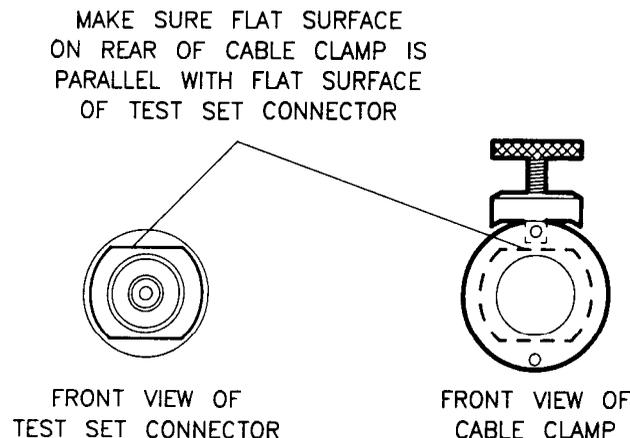

Figure 3-7. Visually Aligning Clamp and Nut Flats
3. See Figure 3-7. Turn the clamp so that the thumbscrew is pointing up. From there, turn the clamp to visually align the clamp flats with the flats on the test port connector nut. This will minimize rotating the connector in the next step.